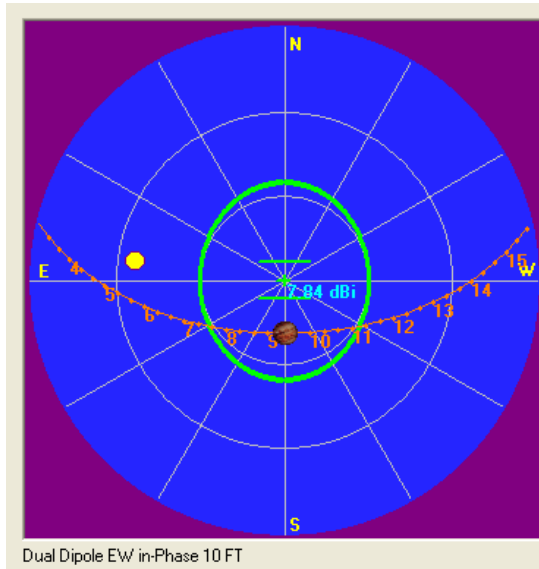
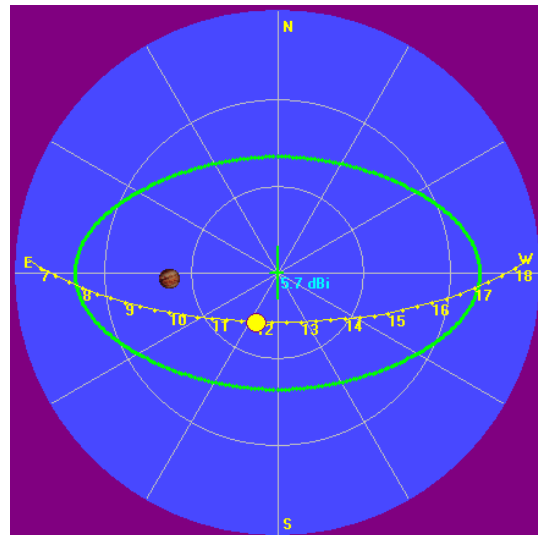

Figure 3.14 – RJP plot showing the overhead antenna beam and the track of Jupiter across the sky in July 2011 for a station located at 30°N.
Figure 3.15 – RJP plot showing the pattern of a single N-S dipole and the track of the Sun for a station at 20°N latitude in early April.
Radio Jupiter Pro is used to predict when Jupiter emissions are likely to occur, allows us to see the track of Jupiter (or the Sun) across the sky, and to visualize the antenna beam pattern on the sky (use the Sky Map display in RJP). Figure 3.14 depicts the sky above an observer station using a Jove dual dipole antenna with the wires running east-west (the two parallel lines near the center of the plot represent the dipoles). The antenna at 10 ft with zero phasing produces an overhead beam. The track shows Jupiter entering the antenna beam at 0730 UTC and leaving the beam at 11 UTC. Figure 3.15 shows a track for the Sun and the pattern for a single N-S dipole.
D. For solar observations a single dipole is sufficient since radio noise bursts from the Sun can be much stronger than Jupiter. The single dipole takes less space and is simpler to construct and this may be an advantage for some observers. Signals will be weaker than if using the dual dipole array but should be plenty strong for easy detection of many solar bursts. A single dipole oriented east-west at a height of 15 feet will provide good coverage for a few hours of solar observations around local noon throughout the whole year for stations located between about 35° north and south latitude (Fig. 3.10). A single dipole oriented north-south will provide a wide east-west beam and may be preferable for some stations at some times of the year (Figure 3.15).